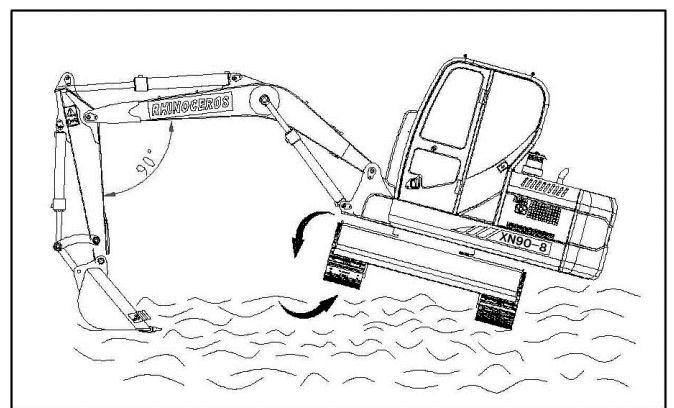
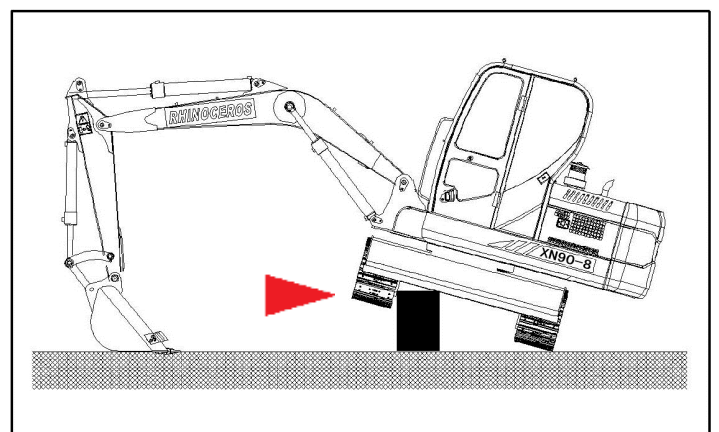

Fig 3-32
Fig 3-33
9. If there is dust or sands on the trak shoe, lift the two track shoes and turn to clear it. Make sure the sludge is cleared. (Fig3-32 Fig 3-33)